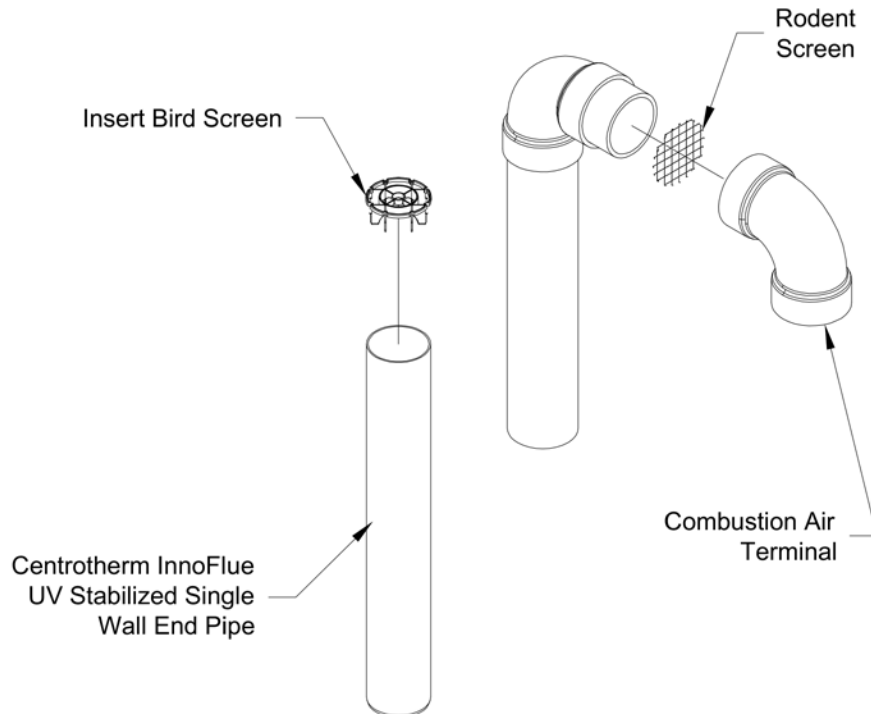

Figure 7.45: Installation of Centrotherm InnoFlue UV Stabilized Single Wall Vertical Terminal
- a. See Figure 7.45 for the proper orientation of twin pipe vertical terminals.
- c. A 180° bend (or two 90° elbows) are installed on the top of the air intake pipe. If two 90° elbows are used, the rodent screen provided can be installed between them (Figure 7.45). If a 180° bend is used, install the rodent screen in the open side of the bend, using a ring made of PVC pipe. If desired, the termination fittings can be attached to the end of the intake pipes with field supplied stainless steel screws so that they can be later removed for cleaning and inspection. If this is done, drill a clearance hole in these fittings and a tap hole in the end of the intake pipes to accept these screws.